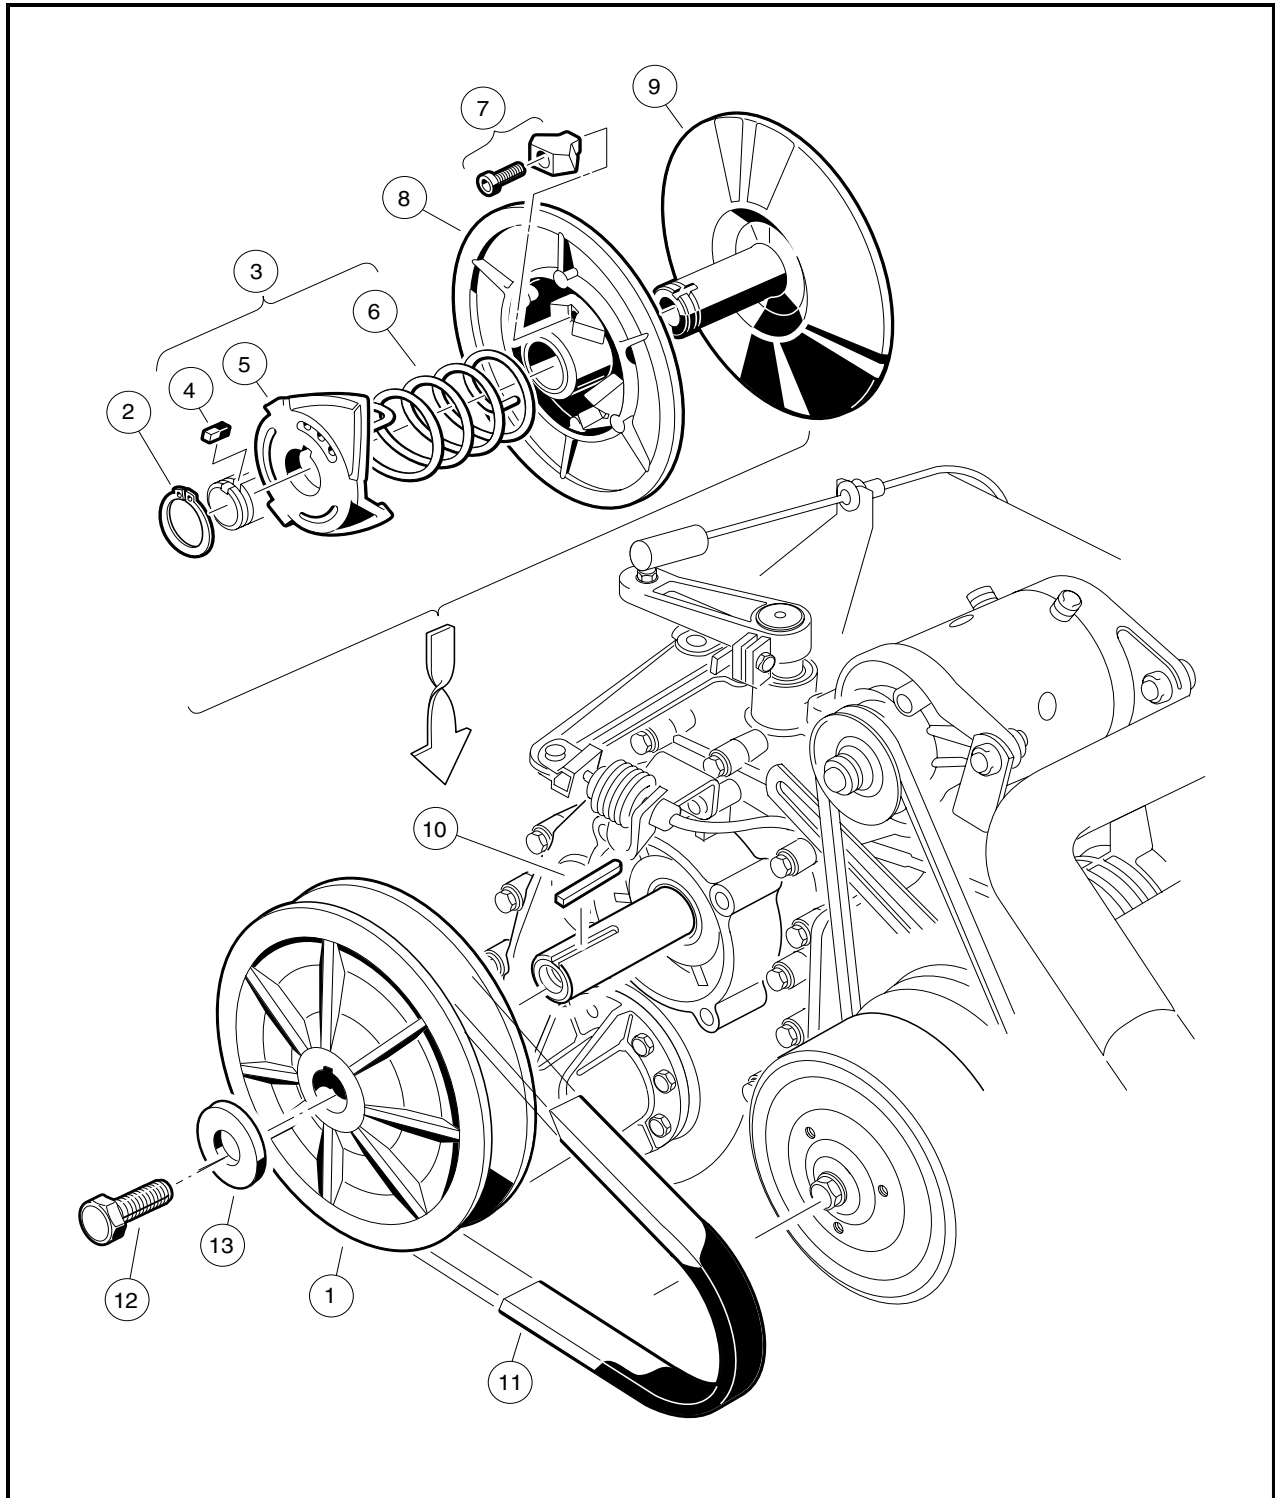

FIGURE 16-16
*With the incorporation of the unitized transaxle on 1997 vehicles, the engine (and therefore the torque converter assembly) rotates clockwise. Because of this, the take-up springs (part of item 10) in the drive clutch, shown in Figure 16-5 on page 16-7 in the 1995-1996 DS Maintenance and Service Manual, are now positioned on the opposite sides of the clutch cover (1) ribs. Also, the drive buttons (7) in the driven clutch, shown in Figure 16-16 on page 16-13 in the 1995-1996 DS Maintenance and Service Manual, are now opposite their former positions. The following illustrations and instructions supersede those in the 1995-1996 DS Maintenance and Service Manual:*